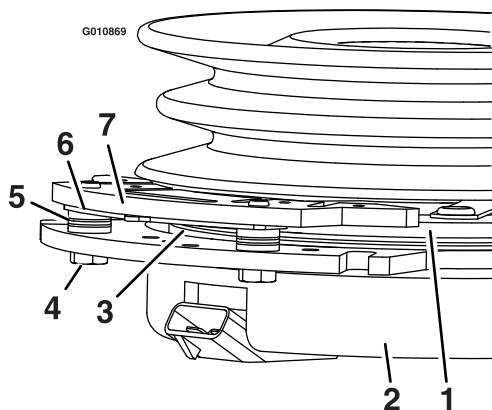

**Figure 68**
3. Remove the dust cap from caster and tighten the locknut (Figure 68).
4. Tighten the locknut until the spring washers are flat, and then back off a 1/4 turn to properly set the preload on the bearings (Figure 68).
**Important:** Make sure that the spring washers are installed correctly as shown in Figure 68.
5. Install the dust cap (Figure 68).